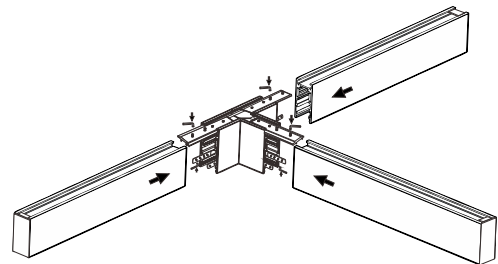

Figure6.2
2. Take out one end cover of the three tracks, align the fixed metal plate and the connecting fixed bolt in a straight line with the T-type adapter, and fix the screw with an internal six-pin spanner; (Figure 6.2)